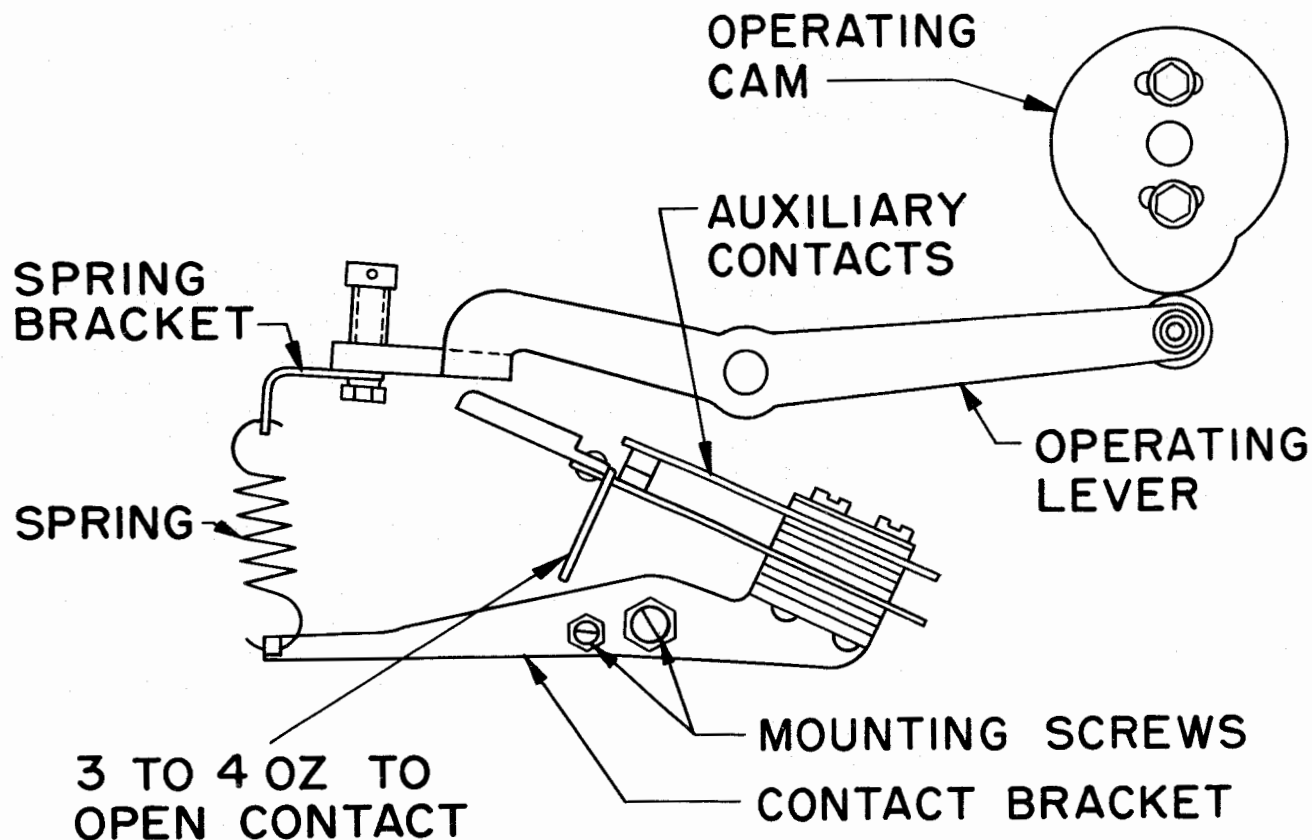

Figure 42
12.01 It shall require a pull of minimum 3 ounces, maximum 4 ounces to open the auxiliary contacts when the operating lever roller is on the high part of the cam. Gauge contact break with a lamp, buzzer, or ohmmeter. (See Figure 42.)